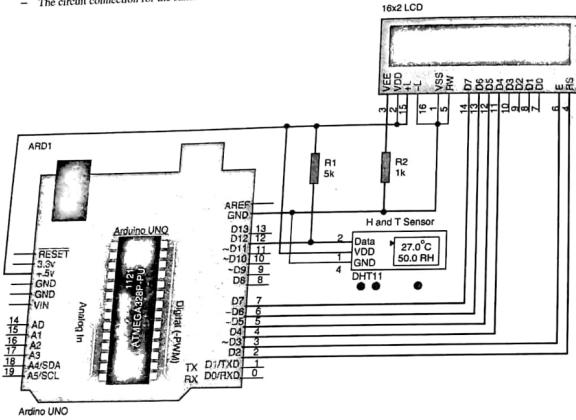

Fig. 14.7.2 : Interfacing of ARduino with DHT11
- The circuit connection for the same can be as shown in Fig. 14.7.2.